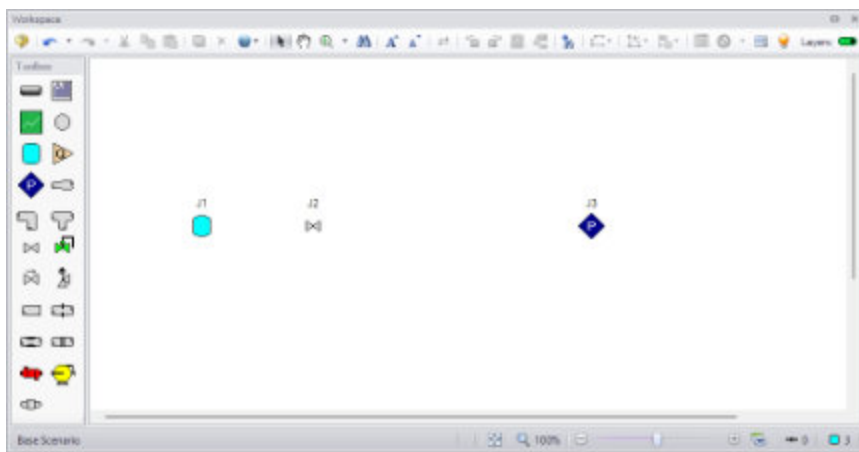

Figure 2.4b All junctions placed
► **Drag a Valve and an Assigned Pressure junction from the Toolbox and drop them on the Workspace** so that your model appears similar to Figure 2.4b. The Valve will be assigned the default number "J2", and the Assigned Pressure junction will be assigned the default number "J3".